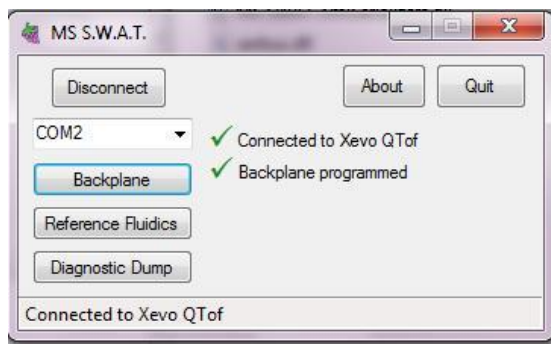
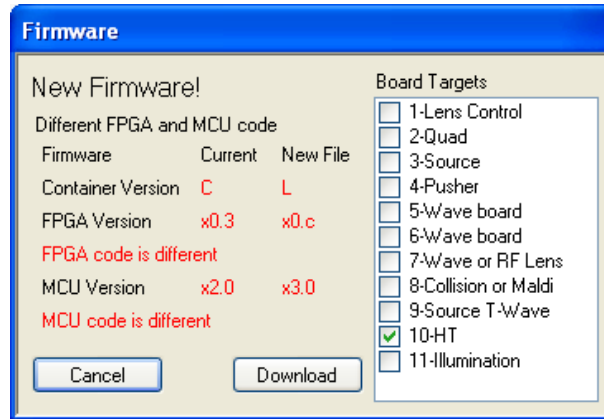
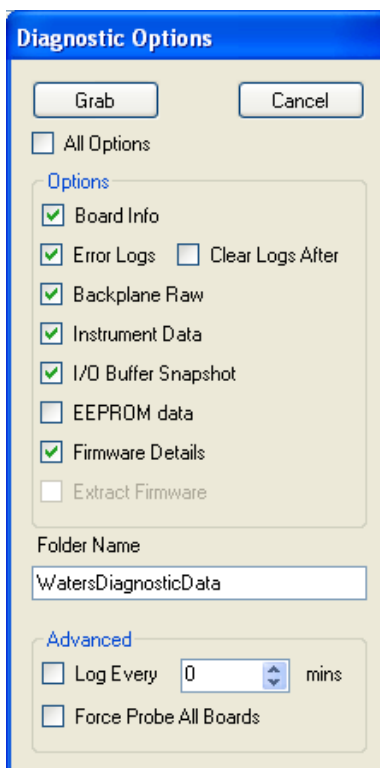

Figure 3
Figure 4
Figure 7
5. Good connections are denoted by the green checkmarks as shown in Figure 3. Please note the instrument named or numbered will vary depending on what instrument you are connecting to.
1. To load a new .bin simply drag it onto the Service Utility main window Figure 3 and Figure 4 window should pop open:
1. To view the backplane information click on the 'Backplane' button in Figure 3.
2. When the Backplane viewer/programmer opens (Figure 4) it immediately attempts to read the backplane. If a Lens/Control board is not fitted it will inform you as such, and you will not be able to program the backplane.
1. To view the Reference Fluidics Control information click on the 'Reference Fluidics' button in Figure 3.
The diagnostic tool is opened via the “Diagnostic Dump” button in Figure 3, it opens Figure 7. This tool allows you to rapidly gain a large amount of detailed information about a system in a format that can easily be sent to GSS for diagnostic. When you press “Grab” the utility will automatically obtain data for all the selected categories and store them in a new folder on the desktop labelled as specified under Folder Name. Once complete the diagnostic tool will close and offer to open the directory with the diagnostic data. ‘Advanced’ Options Logging – It is possible to set the diagnostic